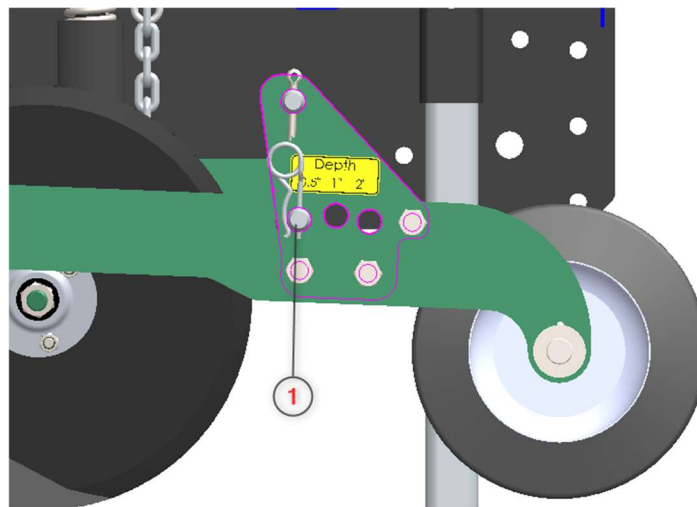

Fig. 6
The coarse setting is done at the back of the machine by adjusting the pin (1) on the packer wheels. Remove the lower R-clip and pin (1) (Fig.6) and place the pin in the hole for the right depth 0.5" - 1" - 2". After that lock the pin with the R-clip.